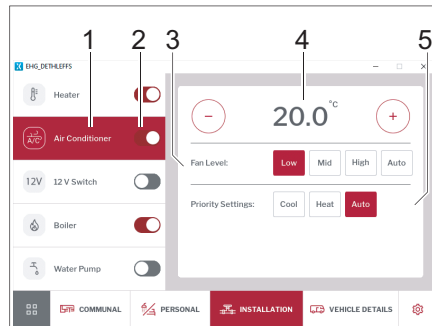

Fig. 266 Air conditioning unit
- Use the switch to turn the air conditioning unit (Fig. 266,2) on or off.
- Click on the *Air Conditioning Unit* (Fig. 266,1) button.
- Use the plus and minus buttons to select the desired living area temperature (Fig. 266,4).
- Set the desired prioritisation (cool/heat/auto) (Fig. 266,5).
- Selection ventilation level (Fig. 266,3).